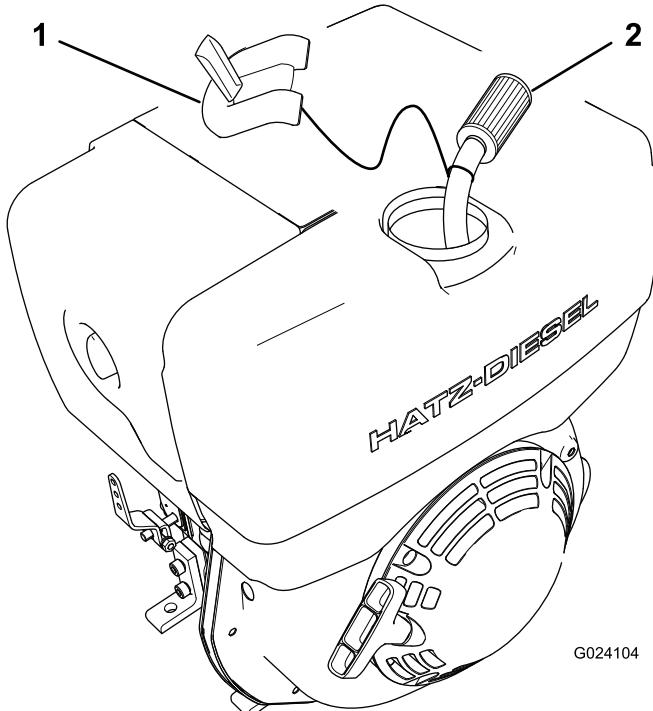

Figure 28
3. Pull the fuel filter out of the fuel tank (Figure 28).